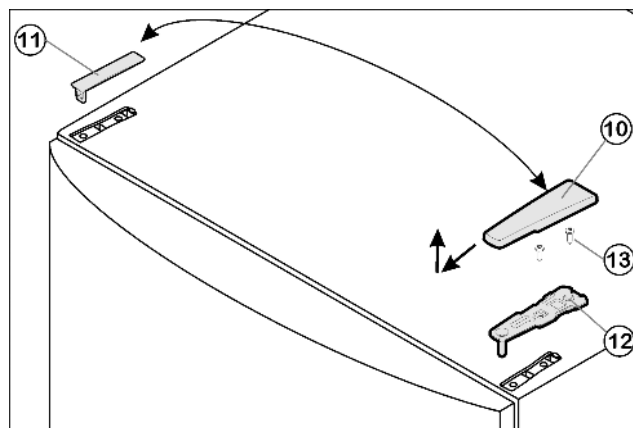

Fig. 4
- ▶ Pull off the cover Fig. 4 (10) forwards and upwards.
- ▶ Lift off the cover Fig. 4 (11).
- ▶ Unscrew the upper turn hinge Fig. 4 (12)(2x Torx® 25) Fig. 4 (13) and lift it off.
- Insert the upper turn hinge *Fig. 4 (12)* in the door on the new hinge side.
- Screw the upper turn hinge *Fig. 4 (12)* firmly into place (**with 4 Nm**) (2x Torx® 25) *Fig. 4 (13)*. Possibly make preliminary holes with a bradawl or use a cordless screwdriver.
- Snap the cover *Fig. 4 (10)* and cover *Fig. 4 (11)* into place at the opposite side.